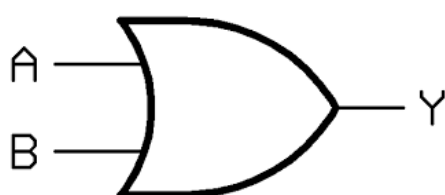

Figure 2
7. Complete the truth table for the logic gate in Figure 2.